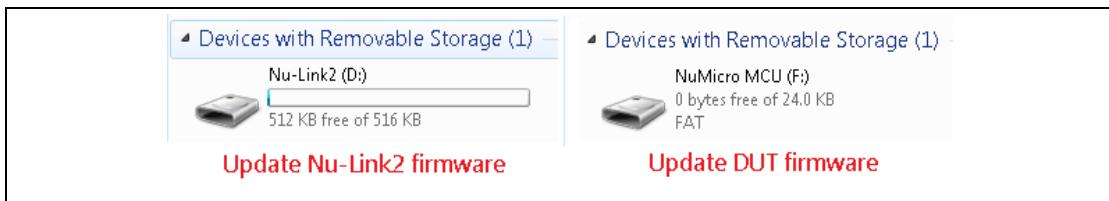

Figure 5.2-54 Update Nu-Link2 Firmware or DUT Firmware
- (2) A "Nu-Link2" disk will show as Figure 5.2-54. (If you see disk name is "NuMicro MCU", it will upgrade DUT firmware instead of Nu-Link2-Pro itself)
- (3) Drag and drop Nu-Link2 image .bin into the disk.
- (4) Re-plug the USB cable to complete update firmware.